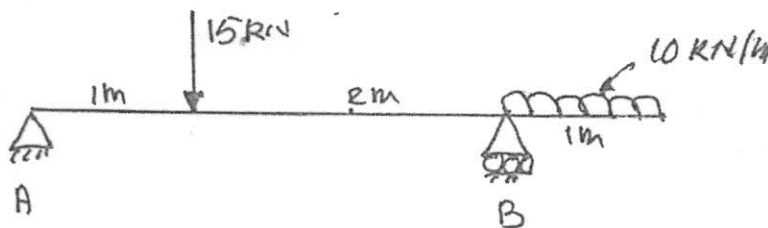

Figure 5 (a)
5. a) A beam AB is loaded as shown in Figure 5 (b). Draw SFD and BMD showing salient features.